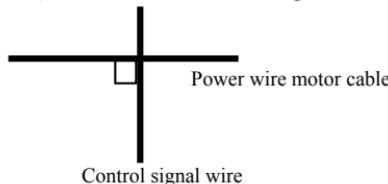

Fig.4-2 System wiring demand
(1) Inverter terminal motor connection wire (U,V,W terminal output wire) and inverter terminal power connection wire (R,S,T terminal input wire) should keep distance enough as possible as can.
(2) U,V,W terminal 3 motor wires should be placed in metal tube or metal wiring tank as possible as.
(3) Generally control signal wire should use shield cable, When shield layer connect to inverter  terminal, It should be the single end earth groudng which closed to inverter side.
(4) Inverter  terminal earth grounding cable must directly connect to floor, It cannot connect to earth grounding through other device, and the location of earth grounding should close to inverter as possible as.
(5) Strong current cable (R,S,T,U,V,W) cannot parallel wiring closely with control signal wire, and bundled together is prohibited. It should keep distance from over 20 ~ 60 cm (Relative to strong current size). When it's necessary to intersect, it should be orthogonal crossing, show as Fig.4-2.